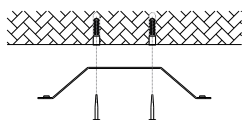

Figure9
2. Insert the supplied rubbers into the alignment holes, then fix the mounting plate on the ceiling by supplied screws. (Figure 9).